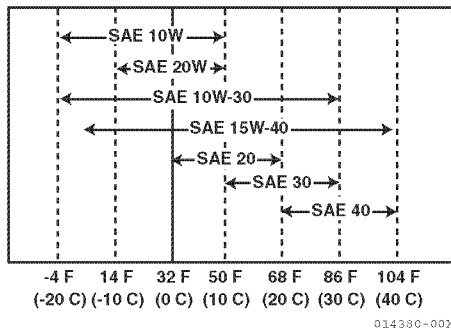

Figure 3-44
The 10W30 and 15W40 can be used throughout the year. See **Figure 3-44**.
3. Select the oil viscosity based on the ambient temperature where the engine is operated. See **Figure 3-44**